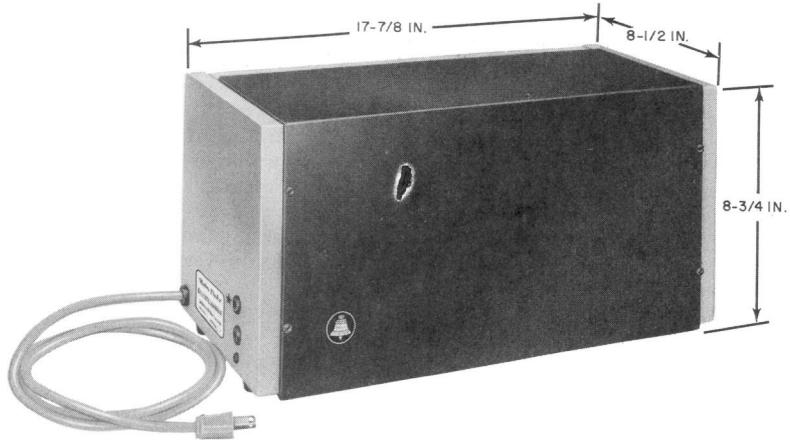
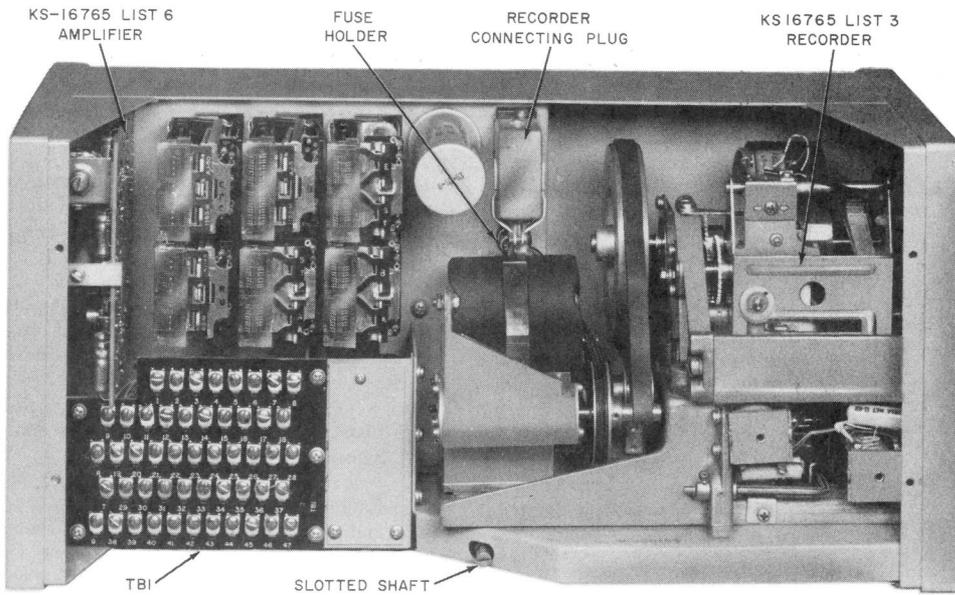

Fig. 1—KS-16765, Lists 1 and 2 Announcement Set Dimensions
Fig. 2—KS-16765, List 1 Announcement Set, Front Cover Removed
2.01 The KS-16765, Lists 1 and 2 announcement sets (Fig. 1) feature:
2.05 Each set weighs approximately 40 pounds and is housed in a metal cabinet that has a removable front and back (Fig. 2, 3, 4, and 5). The cover has a blue gray enamel finish and the chassis has a light olive gray finish. Dimensions are shown in Fig. 1.
2.07 A 1/2-amp fuse is provided in these sets for electrical protection (Fig. 2 and 4).
2.08 The KS-16765, Lists 1 and 2 announcement sets (Fig. 2, 3, 4, and 5) incorporate the following:
| Cover Assembly | B-190892 | Front Cover of Announcement Set | Fig. 1 |
| Fuse | AGC 1/2 amp; obtain locally | Provides Electrical Protection | Fig. 2, 4 |
| Screw | B-190900 | Captive screws of Front Cover Assembly | Fig. 1 |
- (1) Remove announcement set front cover.
- Loosen four captive screws on front cover (Fig. 1).
- (2) Remove recorder connecting plug from plug-in receptacle.
- (3) Remove List 3 recorder.
- (4) Insert new recorder into cabinet.
- (5) Release bail shipping lock.